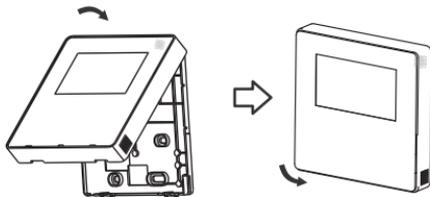

Fig 3-11
- After adjusting the upper case, buckle the upper case; avoid clamping the wiring during installation. (Fig 3-11)